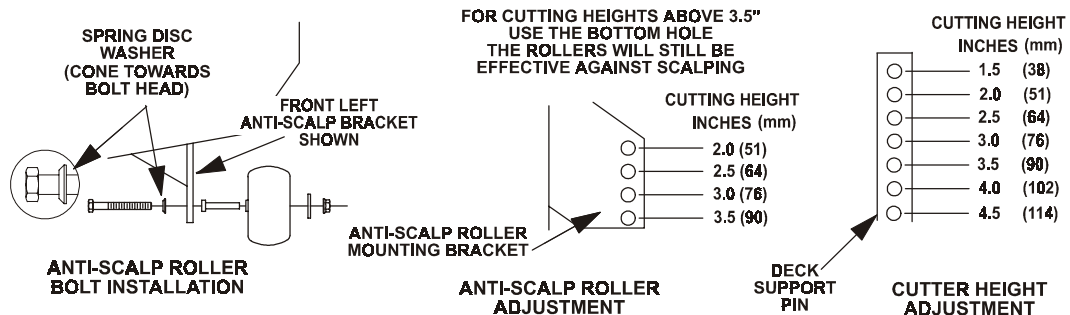

FIG 5
- b) Adjust anti-scalp rollers for Normal Operating Conditions. Place rollers in one of the positions shown in Fig 5. Rollers will maintain 3/4 in. (19 mm) clearance to the ground to minimize gouging and roller wear or damage.
- c) When operating in extremely rough conditions it may be necessary to position the anti-scalp rollers one or two holes higher than described in "b" to prevent damage to the rollers and/or bolt failure (See Figure 5).